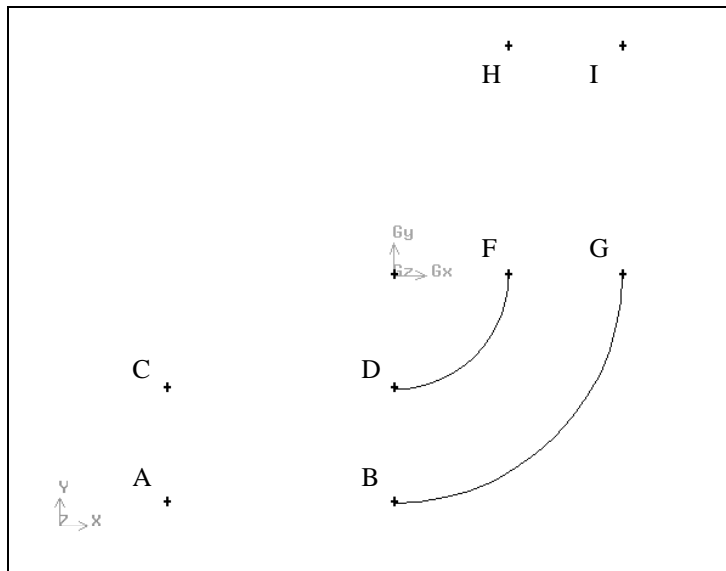

Figure 2-7: Vertices used to create straight edges
a) *Shift*-left-click the left endpoint of the smaller arc (vertex D in Figure 2-7).
b) *Shift*-left-click the vertices marked C, A, and B in Figure 2-7, in order.
- d) *Shift-left-click* the vertices marked F, H, I, and G in Figure 2-7, in order.